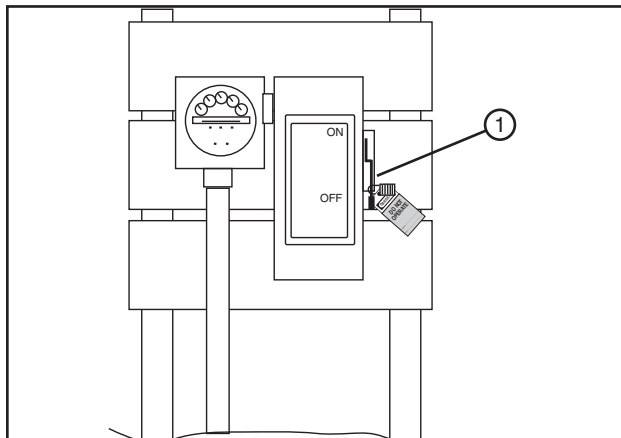

Figure 88-1 1. Public Power Service Disconnect
1. SHUT OFF and LOCK the public power service disconnect to the irrigation machine. See figure 88-1.
FILL OUT the blue (OSHA safety color code) tag and attach to the disconnect after locking. See figure 88-1.